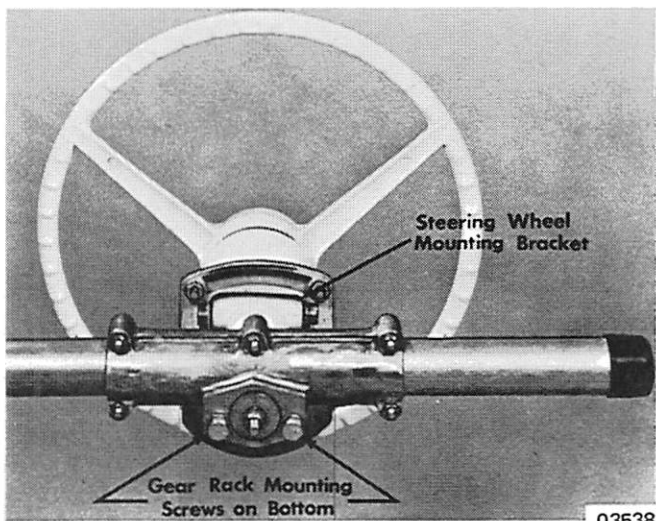

Figure 2. Steering Wheel Mounted
## POSITION of PINION in RELATION to GEAR RACK (Figure 2)
1. Lubricate nylon bushings (26) with Multipurpose Lubricant and place one bushing on each end of gear rack housing (27).
2. Install pinion (34) thru gear rack housing (27).
3. Before installing gear rack and pinion assembly on steering wheel mounting housing behind dash panel, note that 2 gear rack mounting screws are located on bottom of rack, as shown in Figure 2.